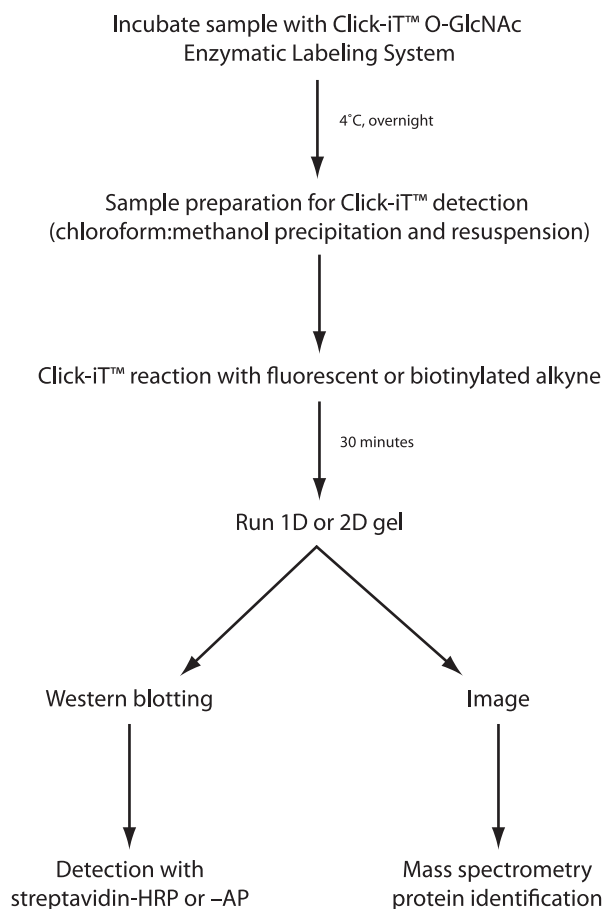
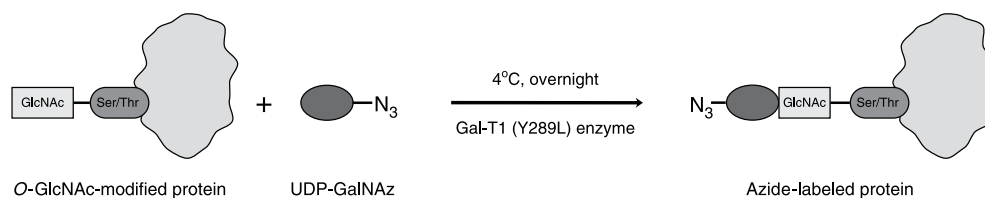

Figure 1. Workflow diagram of the Click-iT™ O-GlcNAc enzymatic labeling and detection scheme.
Figure 2. Enzymatic labeling of an O-GlcNAc–modified protein with UDP-GalNAz and Gal-T1 (Y289L).
The Click-iT™ O-GlcNAc Enzymatic Labeling System provides a highly sensitive and efficient method for the *in vitro* modification of O-GlcNAc modified proteins (Figure 1). Proteins are enzymatically labeled utilizing the permissive mutant β-1,4-galactosyltransferase (Gal-T1 (Y289L) (Figure 2) which transfers azido-modified galactose (GalNAz) from UDP-GalNAz to O-GlcNAc residues on the target proteins.^{3,4} Target proteins can then be detected utilizing one of the Click-iT™ Protein Analysis Detection Kits listed in Table 2, which are compatible with downstream mass spectrometry (MS) analyses including LC-MS/MS and MALDI MS, and Invitrogen's Multiplexed Proteomics® technologies (Table 2). Labeling and detection can be completed in less than 24 hours, and is very sensitive, detecting as little as 1 picomole of α-crystallin, a protein which is only 2–10% O-GlcNAc modified (Figure 3).